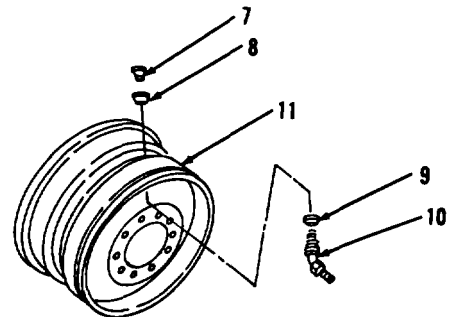

Figure 7-3.
9. Remove spud (7), grommet (8), nut (9) and valve stem (10) from wheel (11, Figure 7-3). Discard grommet (8).
1. Install valve stem (10), nut (9), new grommet (8) and spud (7) to wheel (11, Figure 7-3).